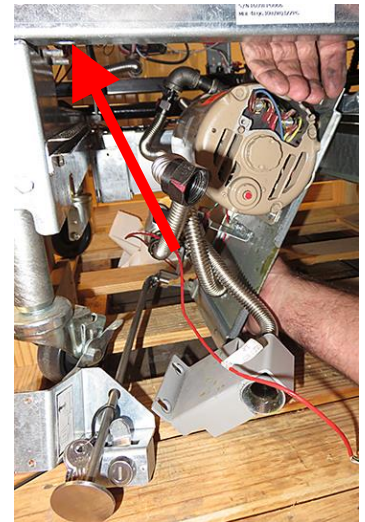

Figure 34
36. Reinsert the entire dispose/filter pump assembly back into the fryer (see Figure 34).